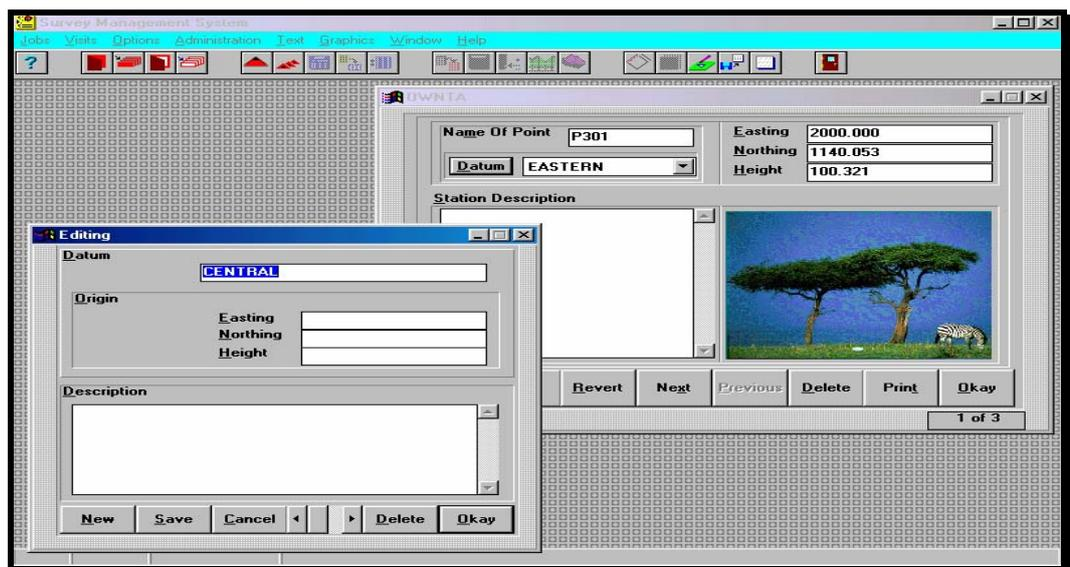

Fig 4.1
-  Click icon or pick Controls/Update, options menu, to install data base, fig 4.1